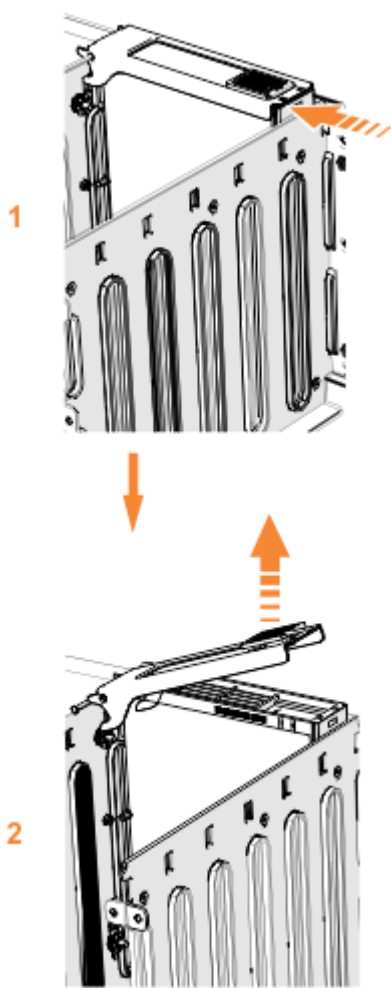

Figure 112. Remove the drive assembly
5. Slide the release latch forward (1), as shown in Figure 112 on page 95.
6. Lift the handle (2) to unlock the drive carrier from the partition, as shown in Figure 112 on page 95. Ensure the toe on the bottom of the latch is fully disengaged.